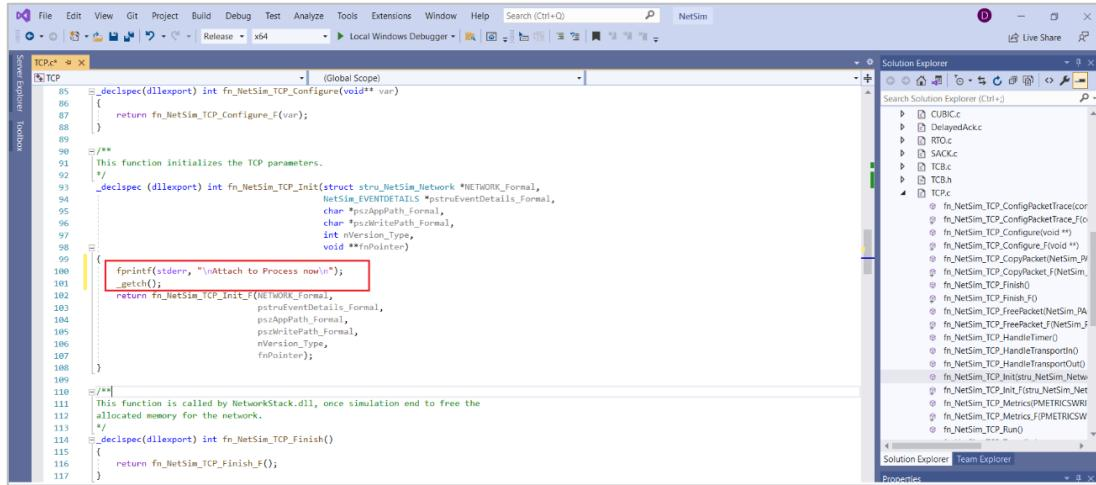

Figure 9-14: Added Two line of Code in TCP protocol
For example, to fail Node Id 2 from 10th sec onwards and fail Node Id 1 from 90th sec onwards, the NodeFailure.txt file will be as follows Figure 9-14.
Step 1: Perform the required modification of the protocol source code and add `_getch()` (used to hold the program execution until the user enters a character) statement inside init function of the modified protocol. For example, take TCP protocol and add the following lines of code in the init function as shown in the below screenshot Figure 9-14.